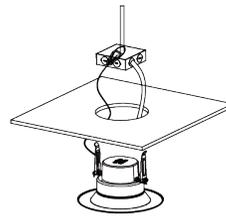

Fig. 9
6. Squeeze the two housing clips so they are in an upright position and then insert luminaire into housing. (Fig. 9)